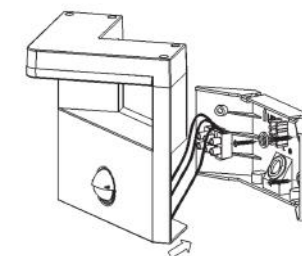

Figure 2.
- Open the wire hole in the bottom and pass the wire through the hole. Fix the bottom on the selected position with the inflated screw (refer to Figure 2).